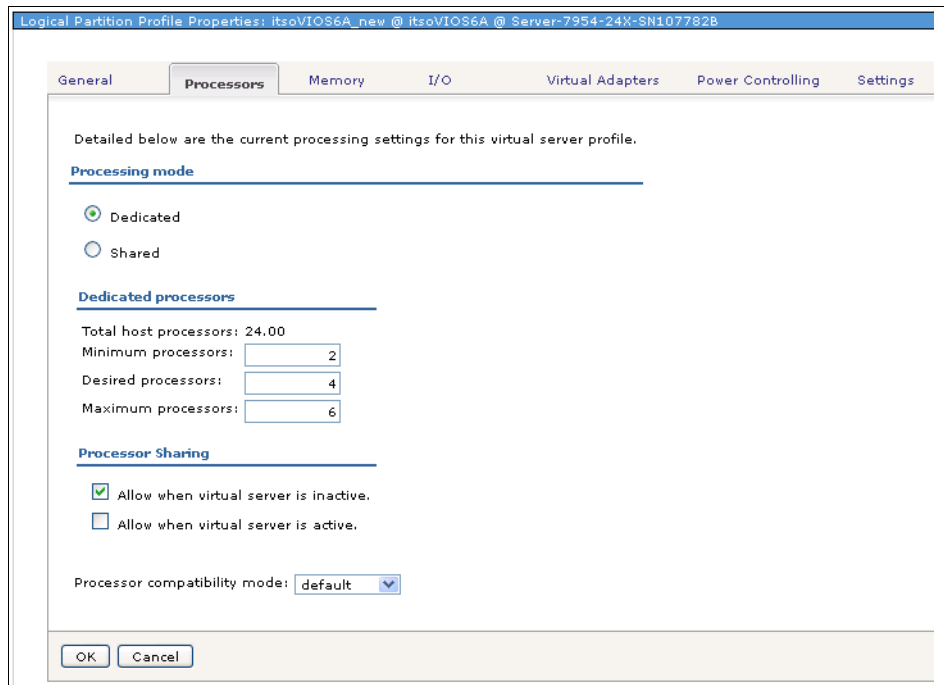

Figure 8-48 VIOS profile: Changing processor settings from FSM
3. Click the **Processors** tab to access the processor settings that were made by the Virtual Server Creation wizard. The window that is shown in Figure 8-48 opens. Options can be changed in this window to the values that are planned for the VIOS virtual server. Change the minimum, desired, and maximum values, as needed.